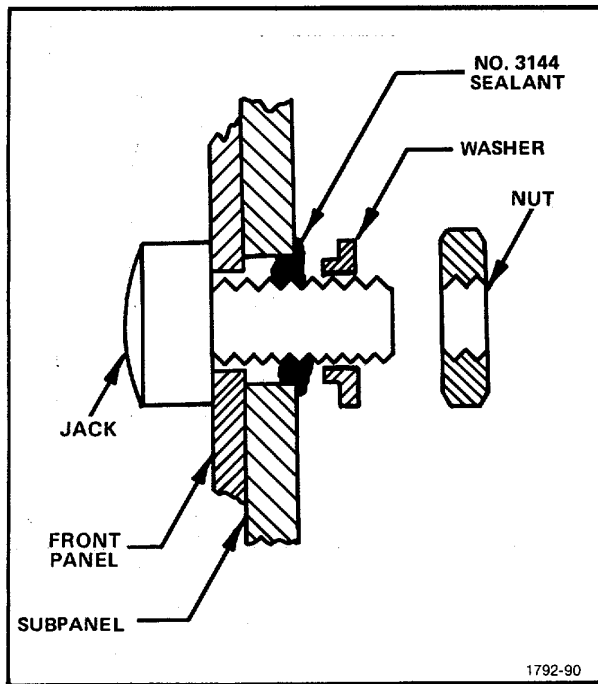

Figure 5-37. Detail of front panel jacks.
**31. Watertight sealing procedures for the Front Panel jacks of the X-Y Output Module, 016-0606-00 (see Fig. 5-37)**
3. Form a bead of No. 3144 sealant around the Jack/Subpanel interface as shown in Fig. 5-37.